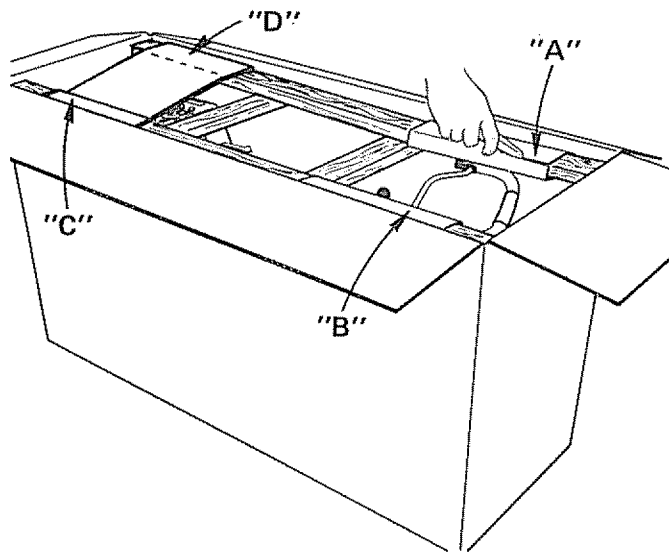

FIGURE 3
- Using a utility knife, cut Cardboard "A", "B", "C" and "D" (Fig. 3).